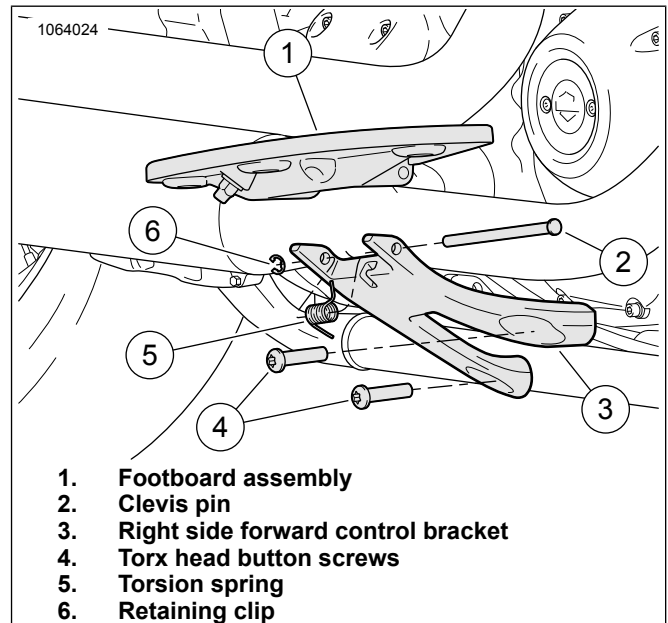

Figure 1. Right Side Forward Control
1. See Figure 1. Position right side forward control bracket (3).